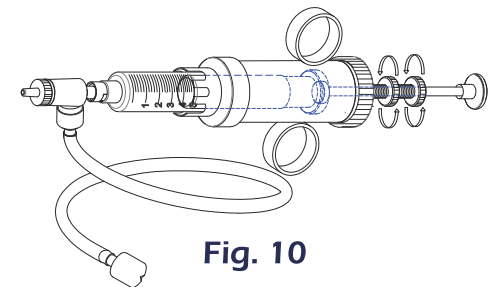

Fig. 10
Rotate the Volume adjustable screw (18) in a clockwise direction to push the glass plunger up the into the glass barrel. Set your desired volume for repetitive dispensing. Rotate the locking nut (17) in the clock wise direction and ensure it touches the bottom of the handle cap (16) so as to keep fixed your desired volume for repetitive dispensing. This will ensure the Volume setting during repetitive dispensing. Refer to Fig 10